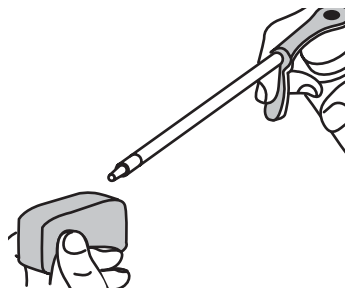

Fig. 33
4. Apply enough clean SAE 30 motor oil to lightly coat the filter (Fig. 33).